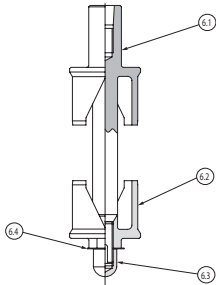
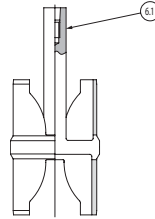

Fig. 3 – 85-30 plug
Fig 4 – 85-40 plug
85-40 Type (figure 4)
- Using a proper tool, unthread the top seat (5) from body (1). Remove the plug (6.1) and unthread the bottom seat (4) from body (1).
6. If necessary, separate the stem (6) from top seating (6.1, fig. 3) or from plug (6.1, fig. 5). Remove the locking pin (34) and unthread the stem (16). This step only should be followed in case of stem (16) replacement. If top seating (6.1, fig. 4) or plug (6.1, fig.4) replacement is required, a new stem should be used.
5.3.2. In case of stem replacement, thread new stem (16) on top seating (6.1, fig. 3) or plug (6.1, fig. 5) and install a new pin (34).
85-30 Type (fig. 3)